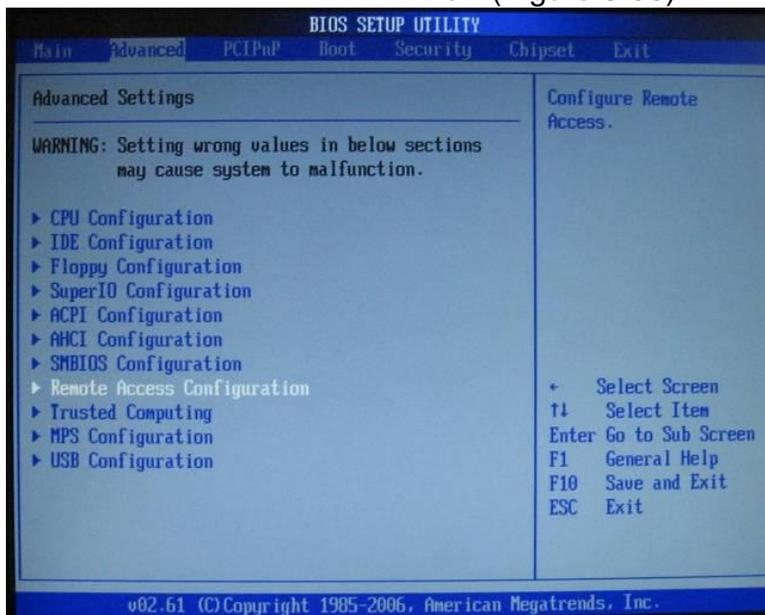

Figure 8-30 Remote Access Configuration Page
20. On **Advanced Settings** screen scroll down to **Remote Access Configuration**, Press **Enter**. (Figure 8-30).